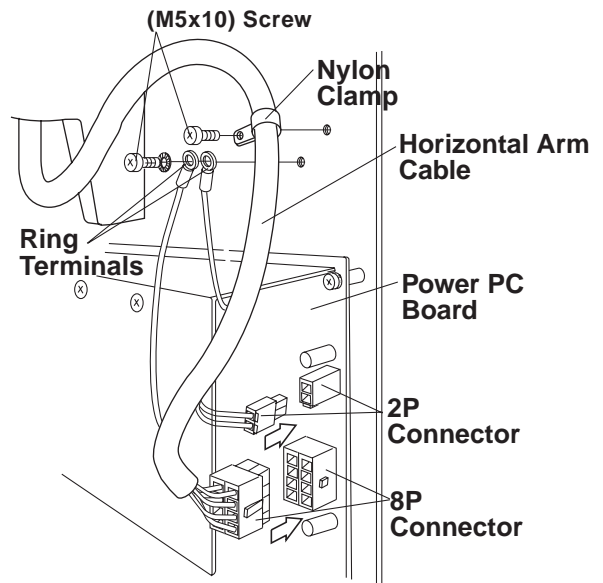

Fig.3-8 Connecting 2P and 8P Connectors on Power PC Board
- Connect **2P** and **8P** connectors of horizontal arm cable to the respective connectors on power PC Board. (Fig.3-8)
- Connect the 2 wires with ring terminals from the arm cable to the chassis with a M5 screw. The arm cable should be secured to the chassis by a nylon cable clamp to prevent damage from twisting. (Fig.3-8)